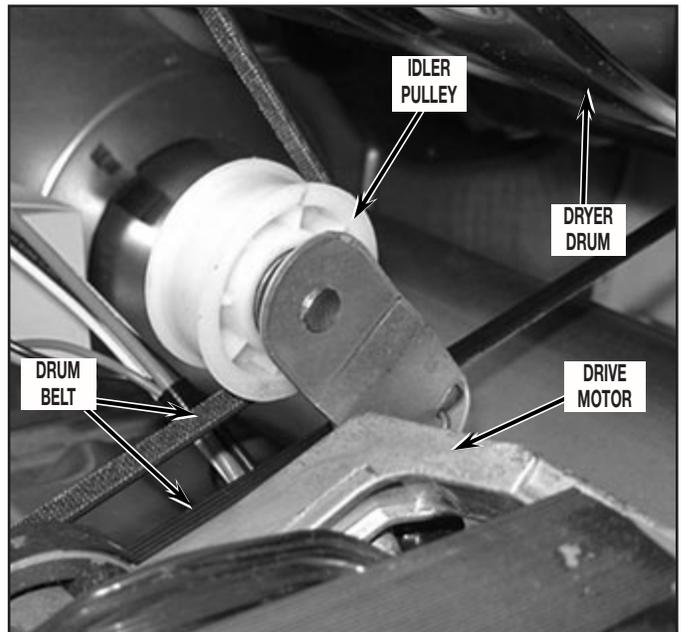

FIGURE 17
- Remove drum from dryer by first reaching into dryer just under the drum, to back side of drive motor. Grasp idler pulley and lift up to relieve tension from belt and remove belt from motor pulley and idler pulley. Refer to Figure 17 for belt removal and reassembly.